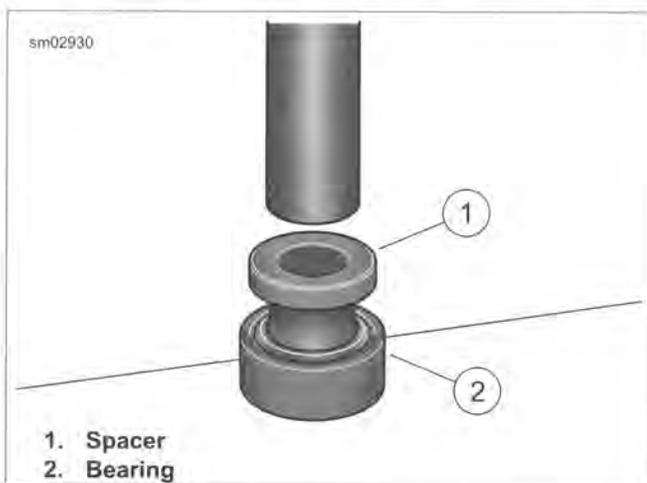

Figure 2-81. Press Spacer into Bearing
- b. See Figure 2-81. With the collar topside, start spacer into bearing.